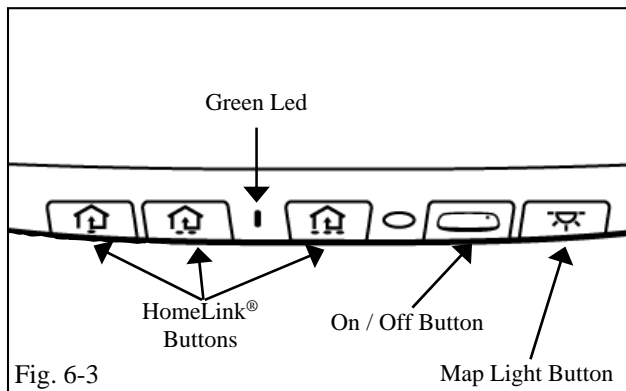

Fig. 6-3
(1) Verify that the vehicle is in a dark area, so that colors may be checked.
(2) Press and hold the Map Light button. (Fig. 6-3). The initial mode will be bright white map lights.
(3) Continue to hold the Map Light button, to cycle through the ambient lighting options:-
- (1) Reinsert ignition key and turn to ON position.
- (2) To make sure the auto-dimming feature is on, verify that the green LED to the left of the center HomeLink® button is on. (Fig. 6-3). If it is not on, push the On / Off) button to turn the feature on.